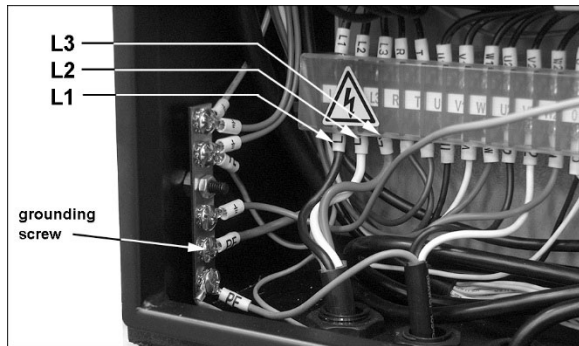

Figure 6-1: three-phase connection shown
1. Bring the lead wires through hole in machine’s electrical box and connect as follows (refer to Figure 6-1):